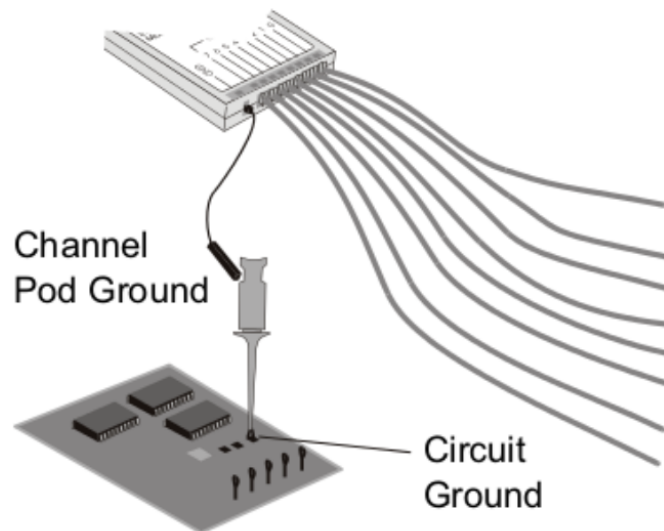

Figure 6: Connecting the ground lead to circuit ground
2. Connect the ground lead on each set of channels (each pod), using a probe grabber. The ground lead improves signal fidelity to the oscilloscope, ensuring accurate measurements. This is shown in Figure 6.